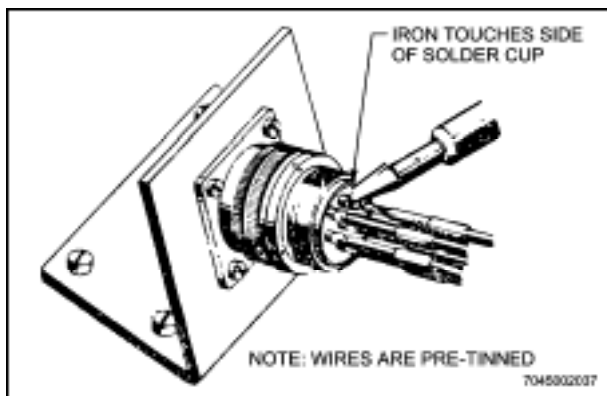
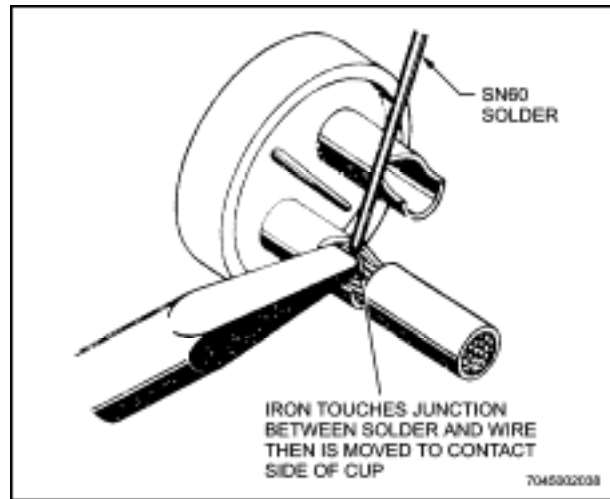

Figure 10-10 Soldering Small Size Contacts
Figure 10-11 Soldering Medium Size Contacts
- b. Contacts that have not been removed from inserts are soldered as shown in Figure 10-10 and Figure 10-11. The solder is flowed by placing the iron alongside the solder cup as the wire is being inserted into it. Medium size contacts such as No. 8 and No. 12 will solder more easily if the iron is held at the point where the wire touches the cutaway of the solder cup as shown in Figure 10-11. Adding a small quantity of solder at this point will aid in carrying the heat into the joint.